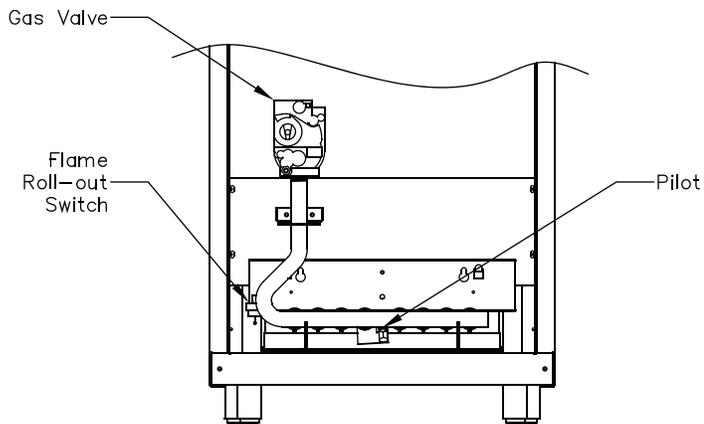

Figure 3: Burner Compartment Area
3. All boilers are equipped with a flame rollout switch located as shown in Figure 3 or 4, depending on specific boiler design. This switch will shut the burners down in the event that flames exit the burner compartment through the front opening. If this happens, the flame rollout switch must be replaced. If the boiler fails to fire, call a qualified installer, service agency or gas supplier to diagnose and correct the problem.
- Black carbon ("soot") in or near the burner compartment area. See Figure 3 or 4